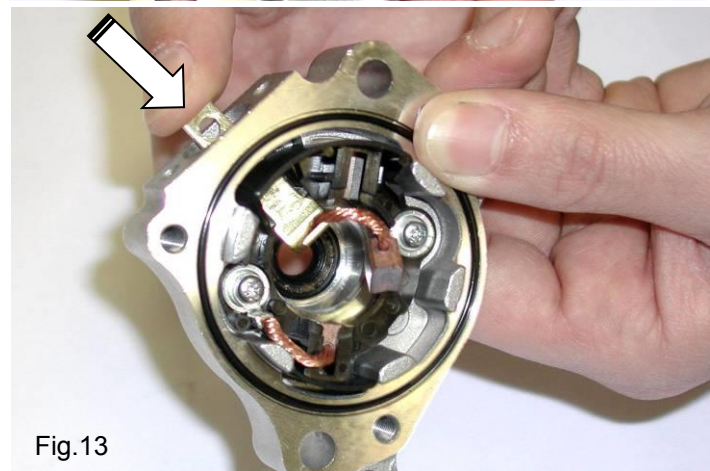

Fig.13
- REMOVE THE BRUSH MAKING PRESSURE ON THE TIN PLATE TERMINAL EXTERNALLY (see Fig. 13)